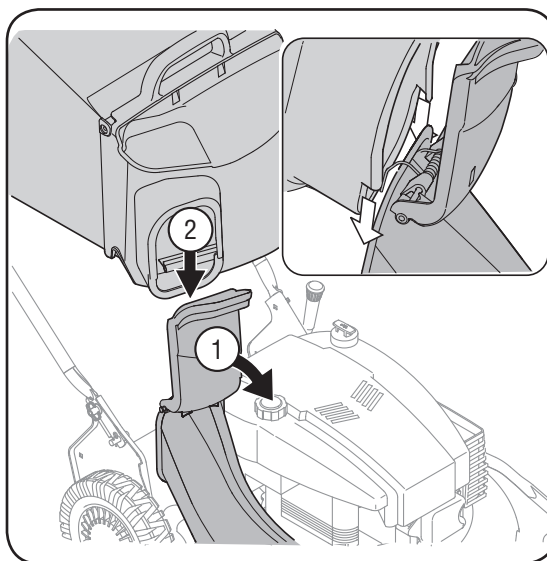

Figure 7
- Lift flap and slide bag onto adapter. See Figure 7.